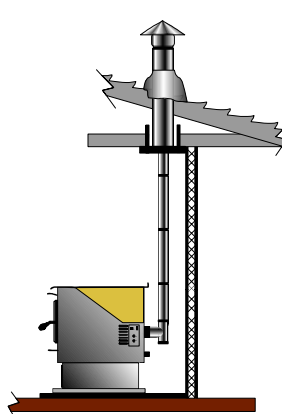

Figure 18
-  **VERTICAL, UP TO AN EXISTING CLASS A CHIMNEY OR MASONRY CHIMNEY**. An appropriately sized adapter will be needed when connecting onto either a Class A chimney or into a masonry chimney. NOTE: The connection into a masonry chimney must be airtight. Figures 18, 19 and 21.